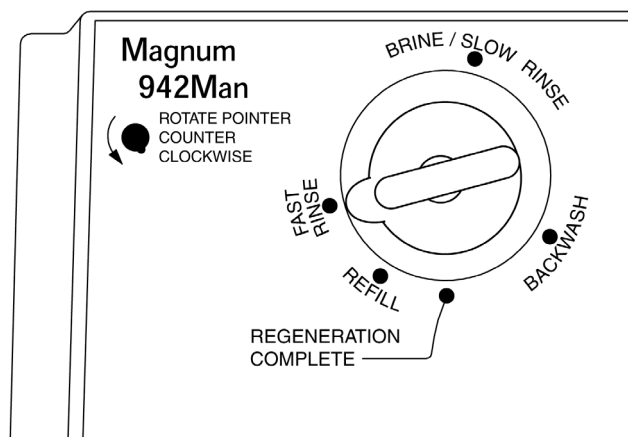

Figure 5.3
4. When the slow rinse is complete, move the indicator knob **COUNTERCLOCKWISE** to the center of the **Fast Rinse** position (Figure 5.3). The indicator knob should remain in the **Fast Rinse** position for the appropriate amount of time. specific fast rinse times are determined by water quality, clarity of drain water, water pressure, and flow. Fast rinse serves to eliminate excess salt and repack the resin bed for the service run. Typically fast rinse should continue for 5 - 15 minutes*.